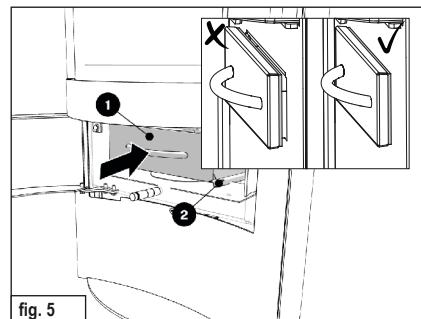

fig. 5
- ▶ Put the cover (2) back in place (fig. 5).
- ✓ Slide the ash drawer (1) back into the opening so it is flush with the seal (fig. 5).